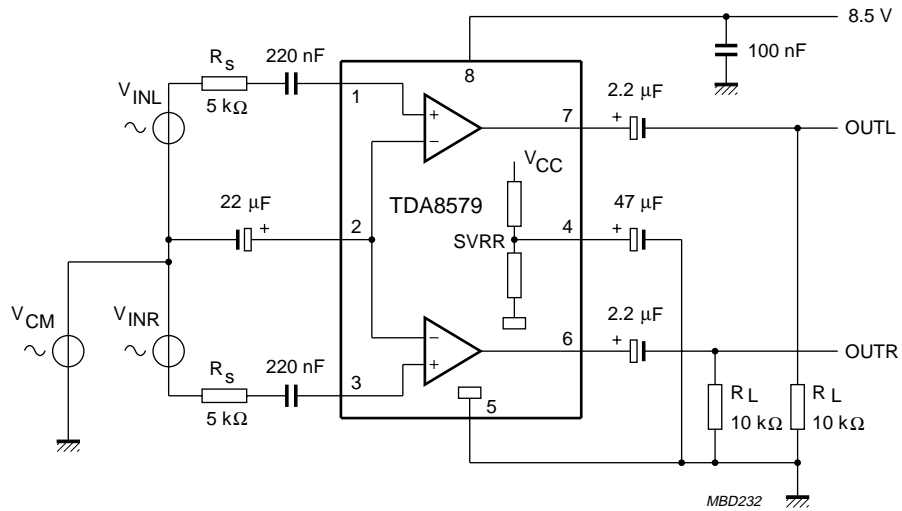

Fig.3 Test and application circuit.
$V_{CC} = 8.5 \text{ V}$ ;  $T_{amb} = 25 \text{ }^\circ\text{C}$ ;  $f = 1 \text{ kHz}$ ; measured in test circuit of Fig.3; unless otherwise specified.
4. The common-mode rejection ratio is measured at the output with a voltage source 1 V (RMS) in accordance with the test circuit (see Fig.3) while  $V_{INL}$  and  $V_{INR}$  are short-circuited. Frequencies between 100 Hz and 100 kHz.